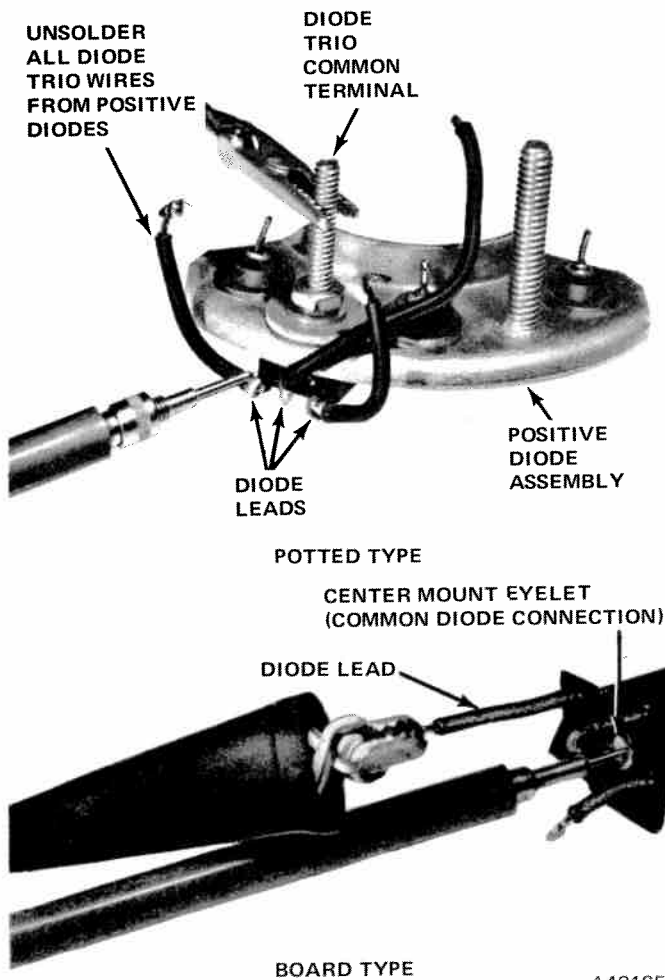

Fig. 3-26 Diode Trio Bench Test
- (2) Attach tester to a 12-volt battery.
- (3) Attach negative clip of tester to common terminal (threaded stud) of diode trio.
- (4) Attach positive clip to one of diode trio terminals (fig. 3-26).